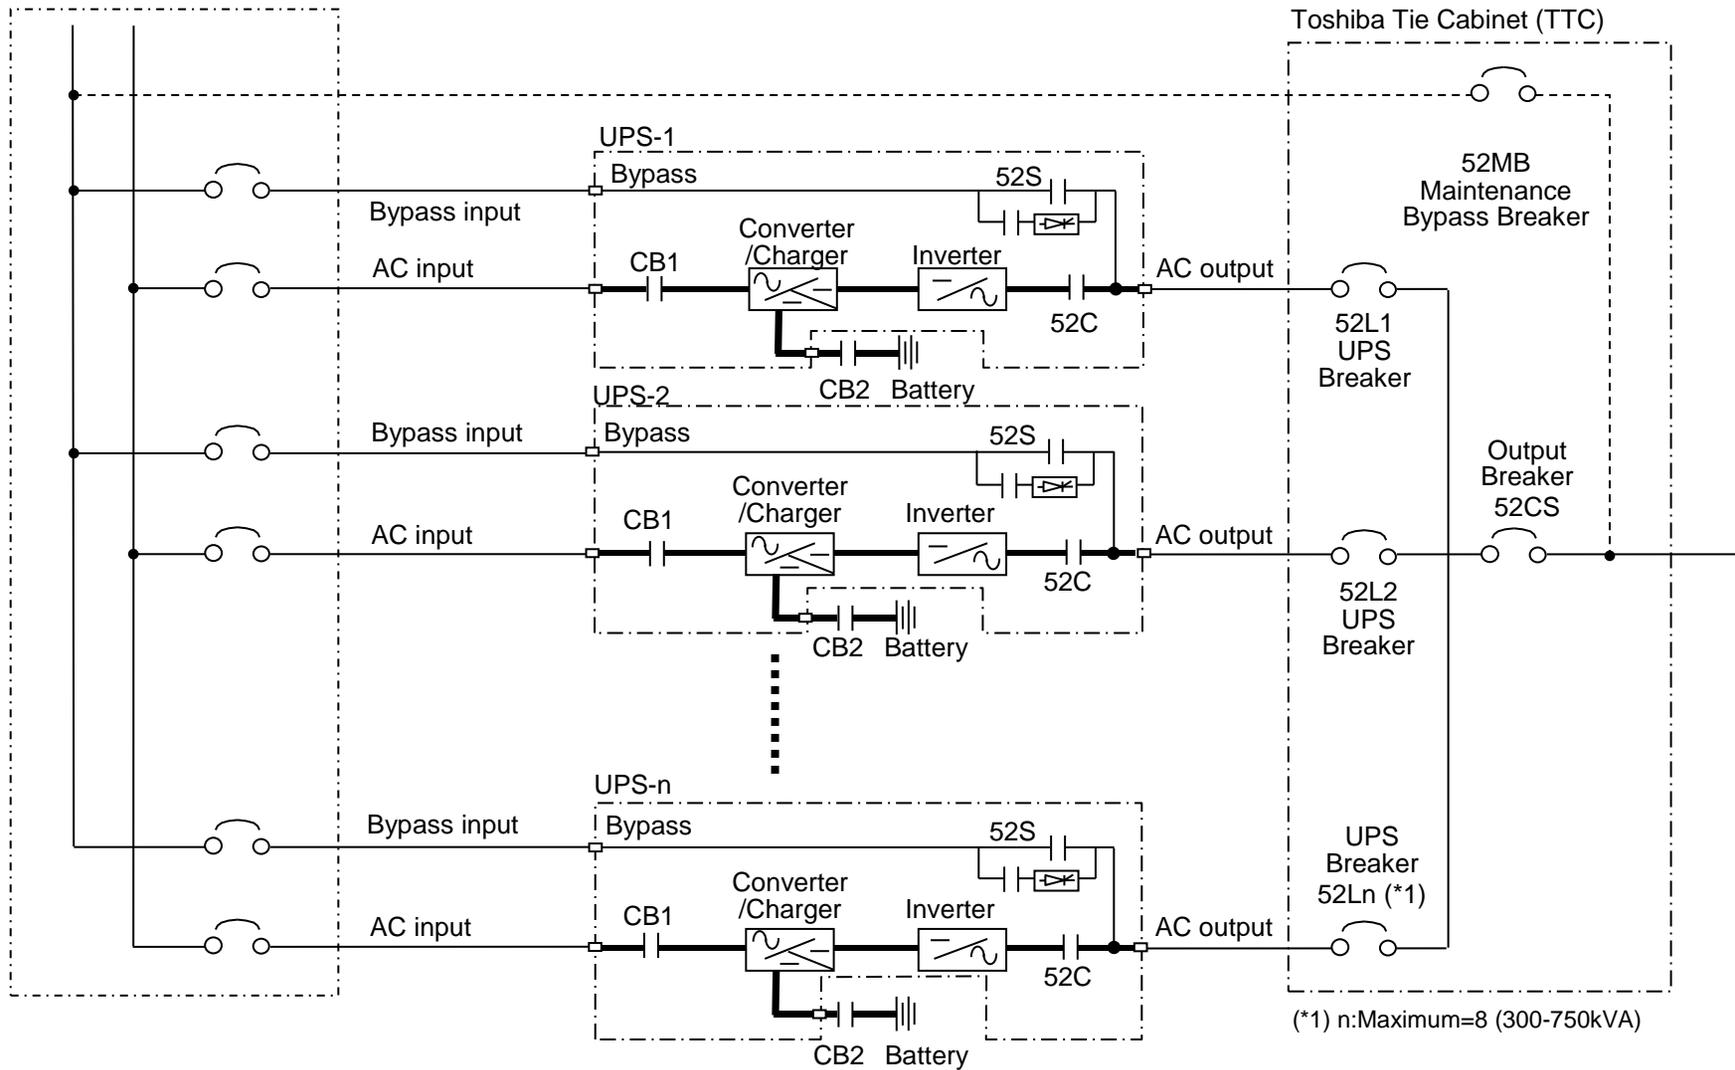
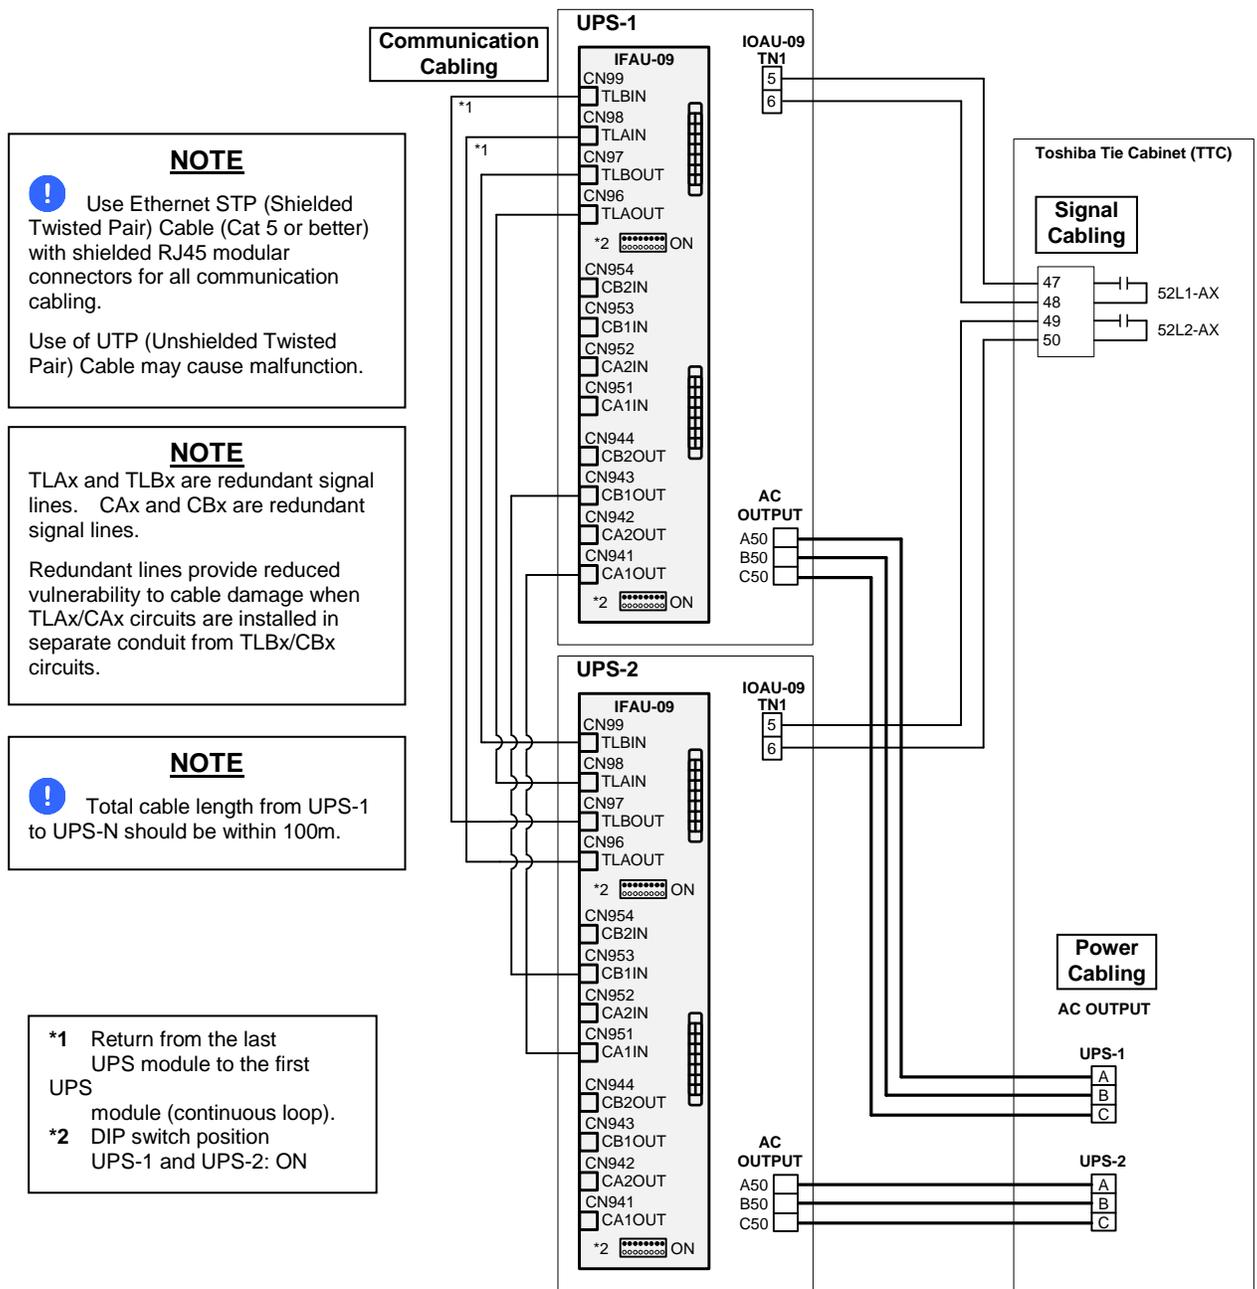
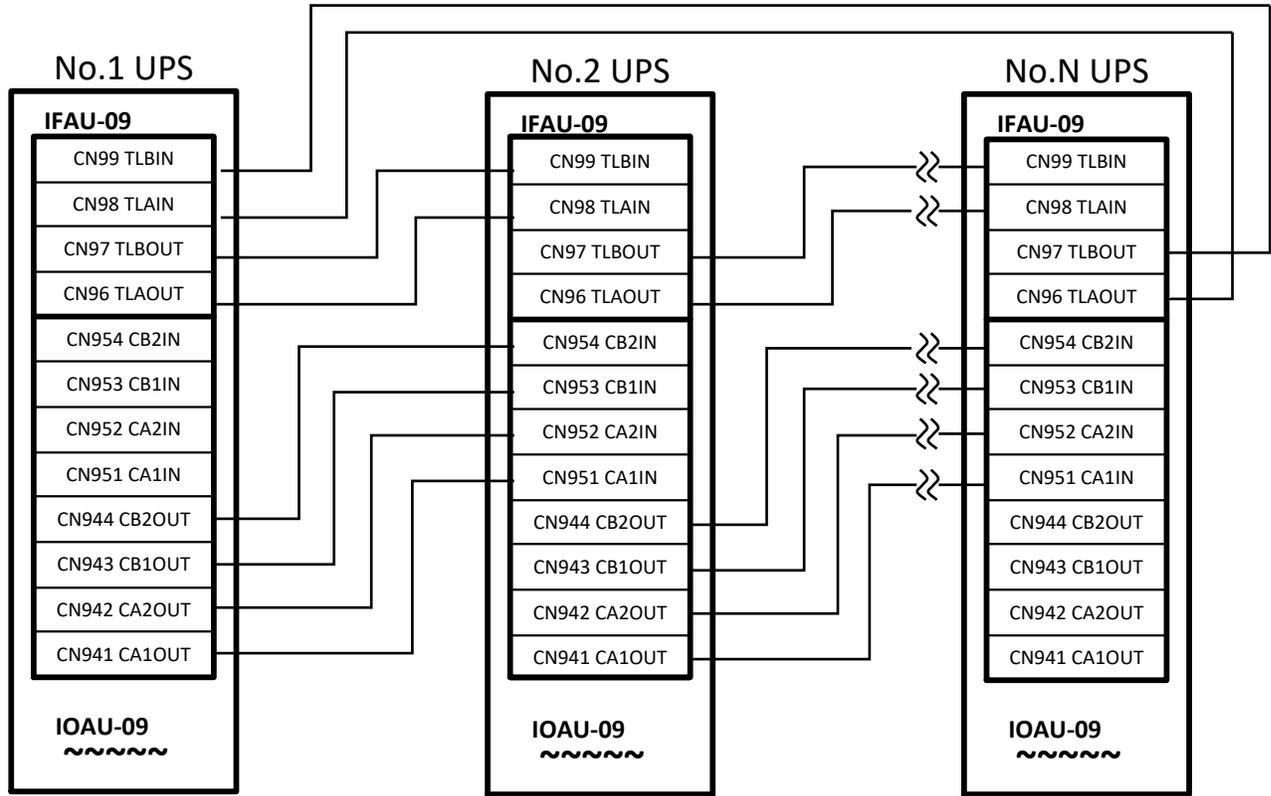

Figure 5-12 Diagram of Power Wire Connections (Parallel System Configuration)
Figure 5-13 Diagram of Communication, Power & Control Wire Connections for 2 units in MMS Configuration (300-750kVA)
Figure 5-18 Detail of IFAU-09 Control Wire Connections for 5 to 8 units in MMS Configuration (300-750kVA)
Figure 5-12 to Figure 5-18)
- Parallel control signal for CN941, CN942, CN943, CN944, CN951, CN952, CN953, CN954 as shown in Figure 5-13 to Figure 5-18.